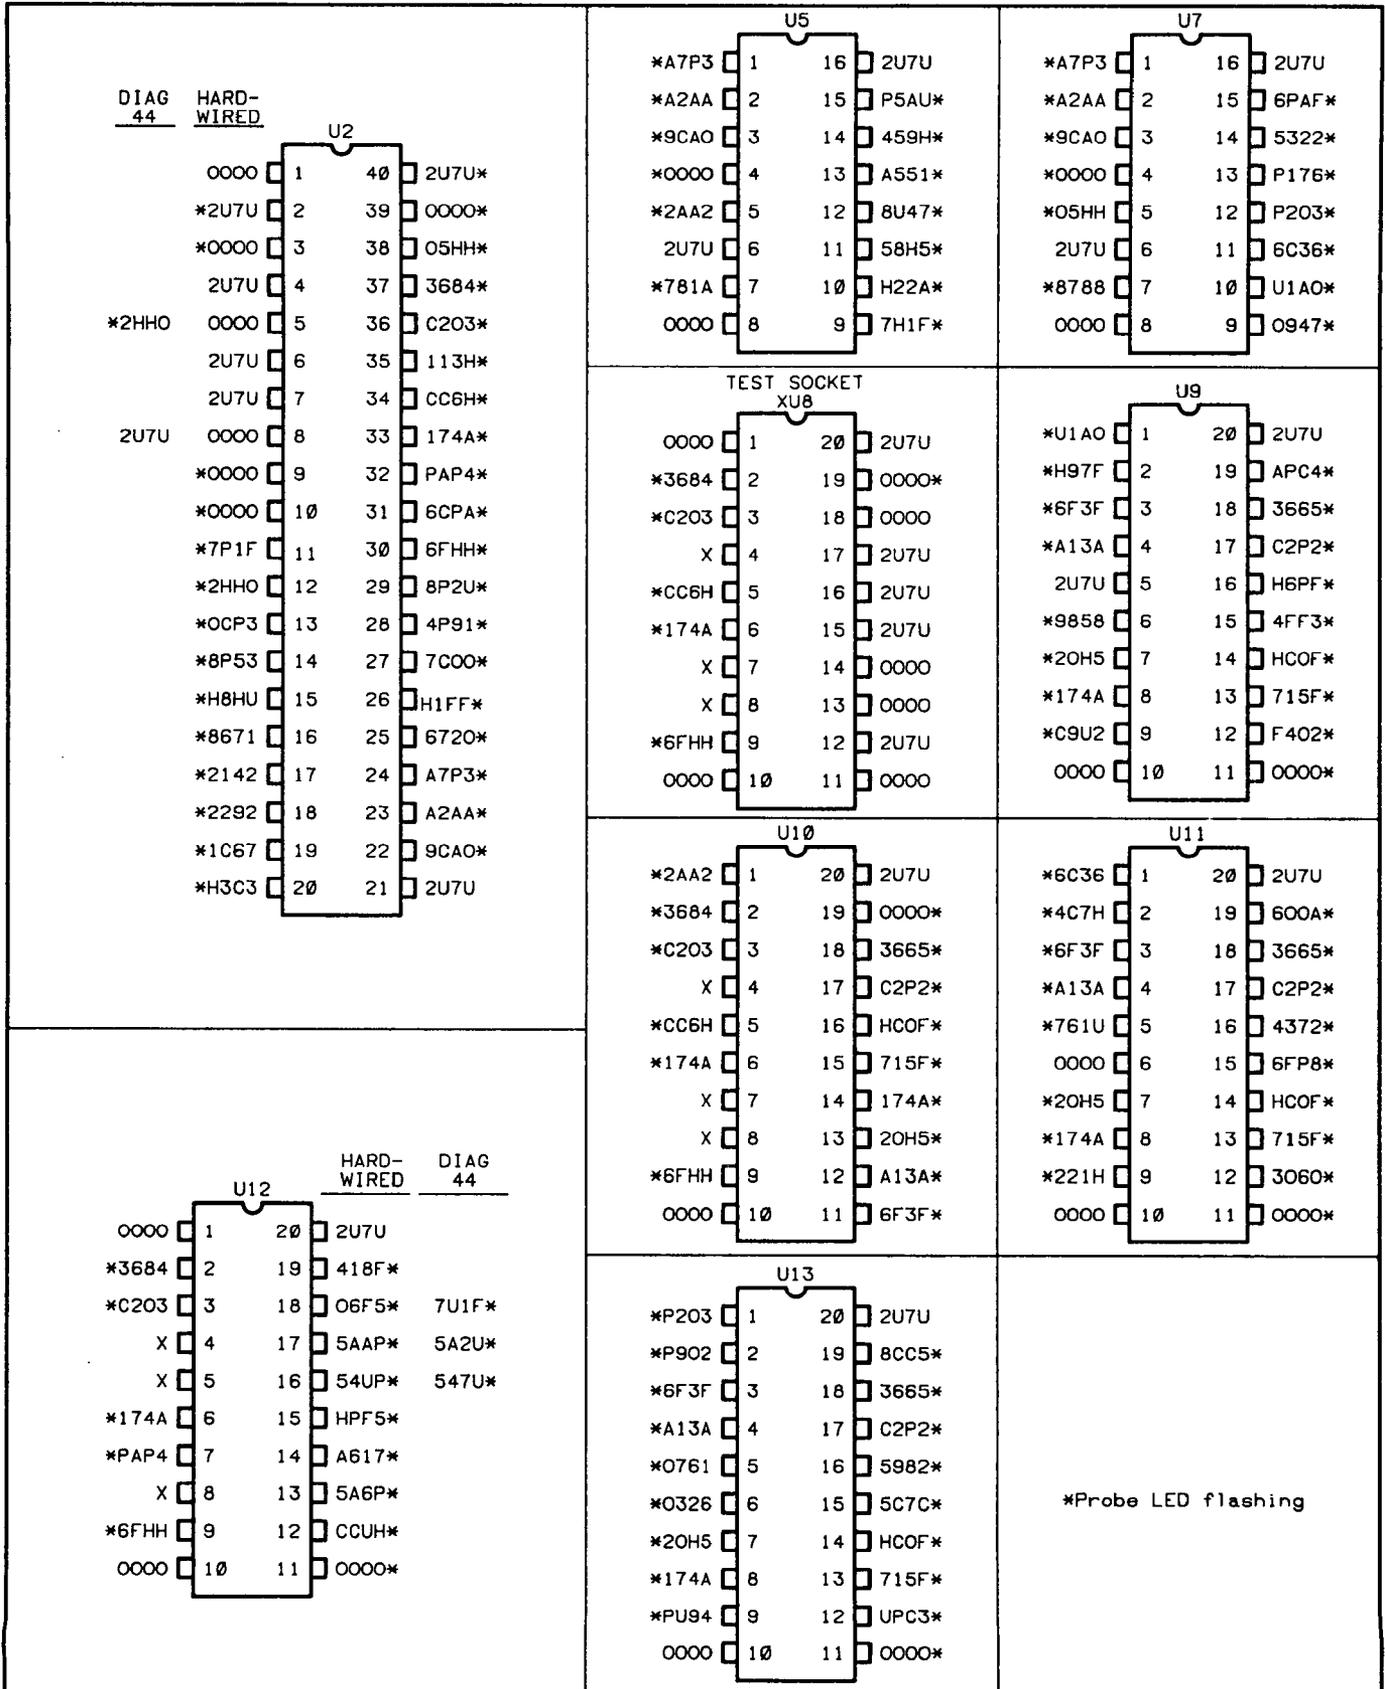
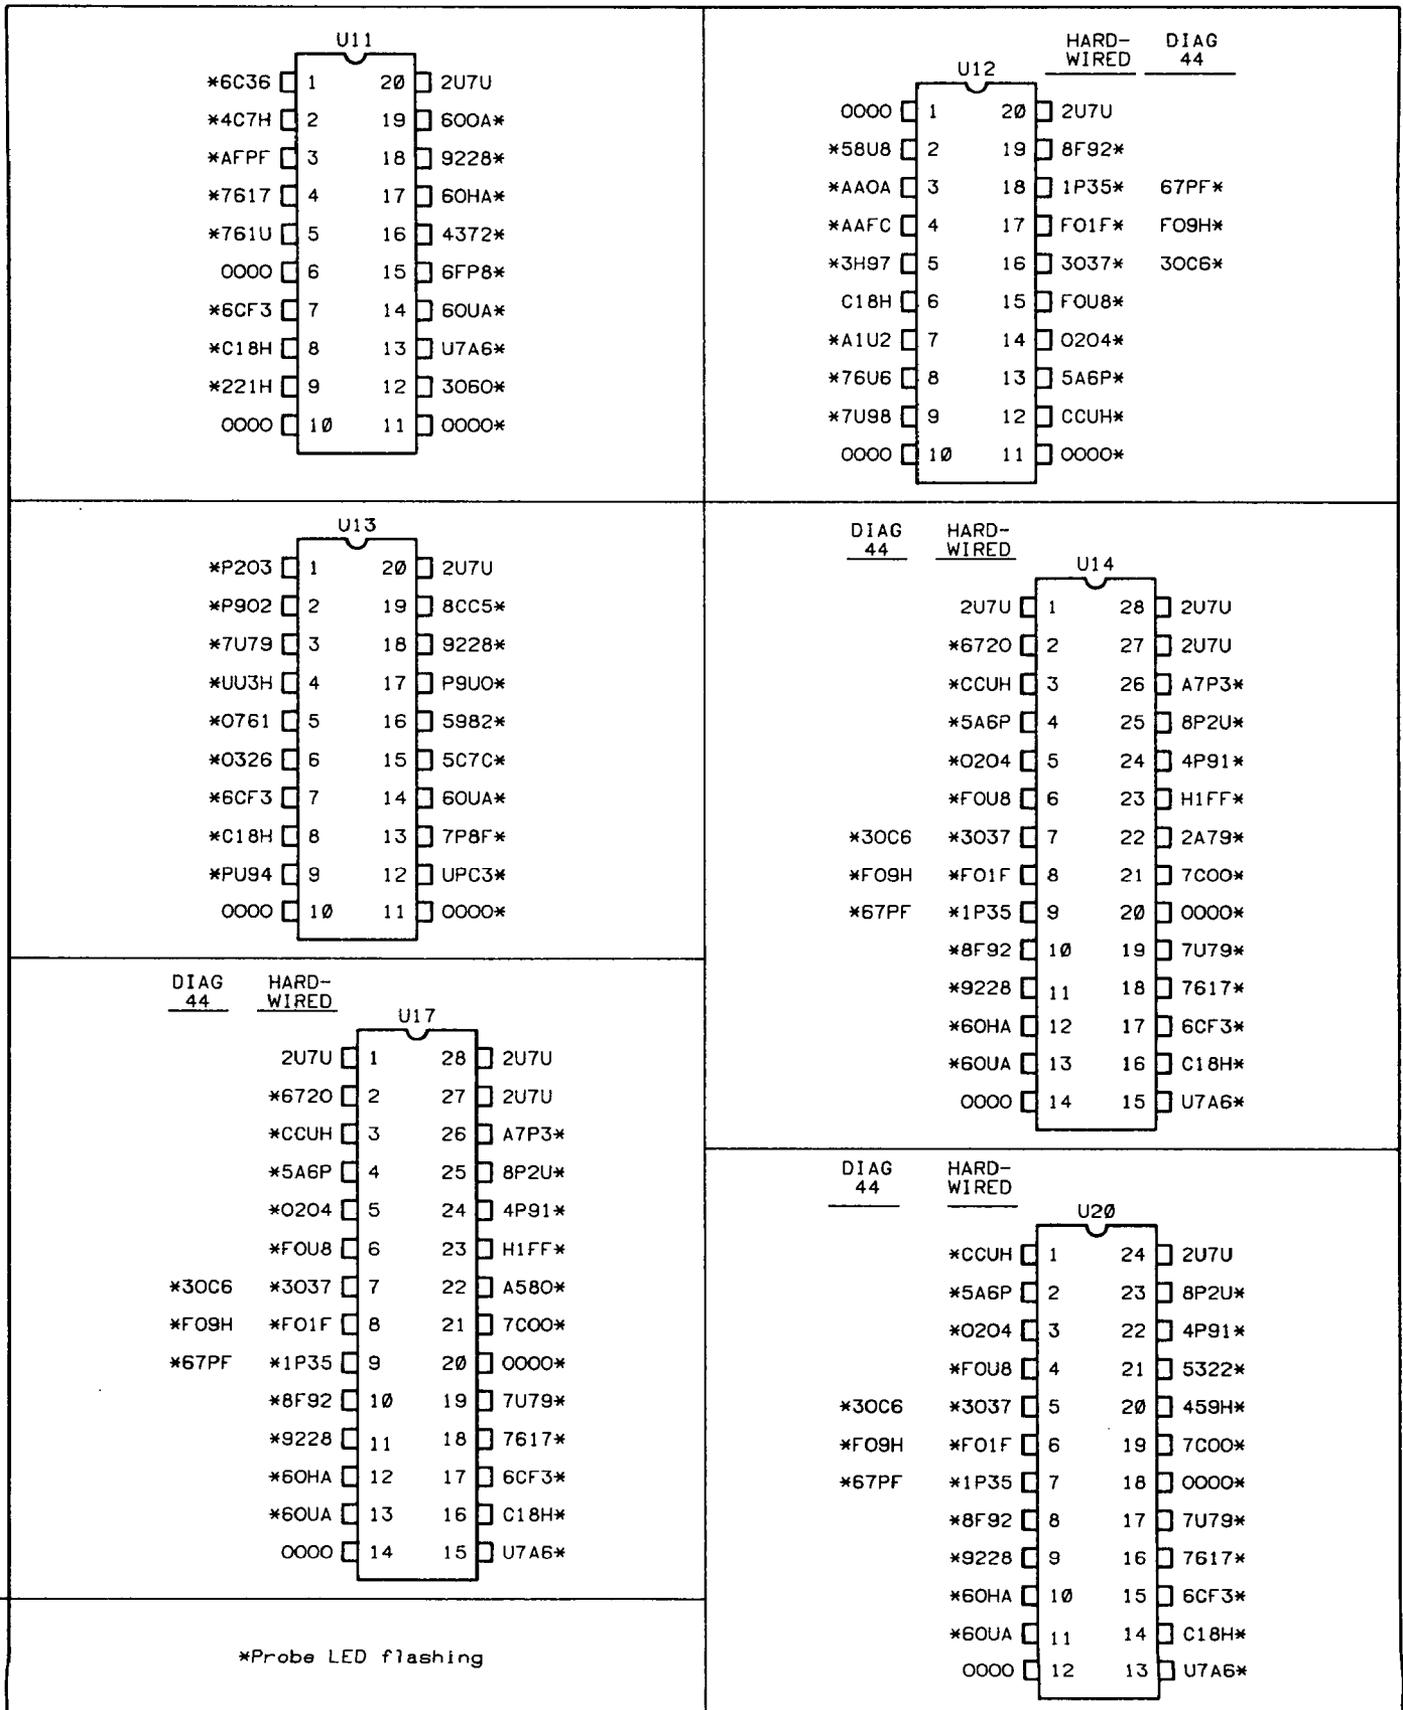

Figure 8-33A. 5350B/5351B A4 Signatures for Mode 2
Figure 8-33B. 5352B A4 Signatures for Mode 2 (Continued)
7. Verify the signatures shown in *Figure 8-33A* for the 5350B/5351B or *Figure 8-33B* for the 5352B.